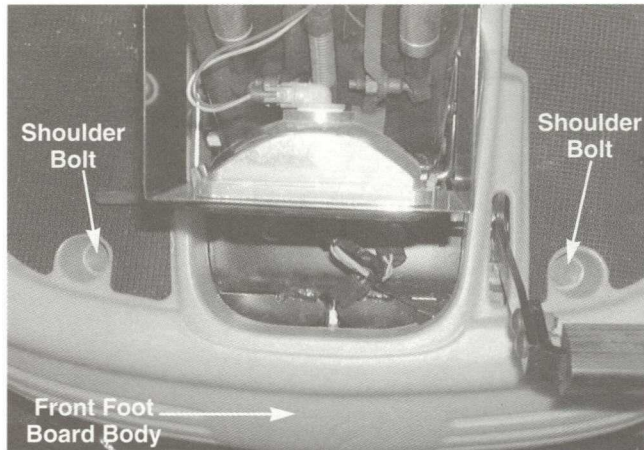

FIGURE 9.
17. Remove both front shoulder bolts securing the front of the foot board body to the front frame assembly using a 15/16 socket. See figure 9.